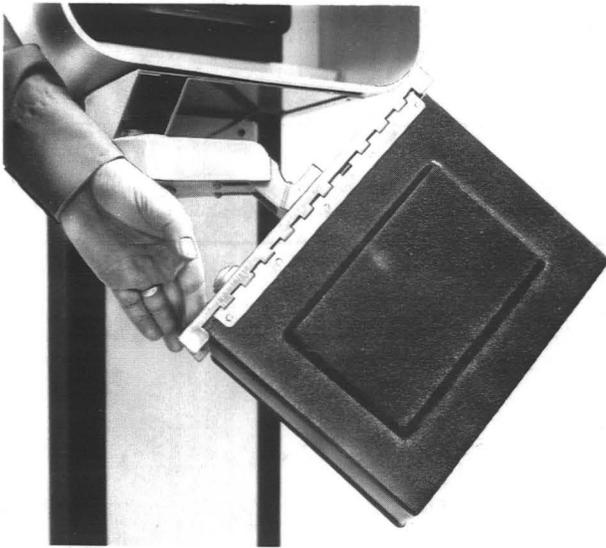

Fig. 15—KS-21435 Directory Facility Mounted on a KS-20842, List 31 Housing
2.07 The KS-21435 facility consists of a cast mechanism that permits rotation in the horizontal and vertical planes simultaneously (Fig. 15).